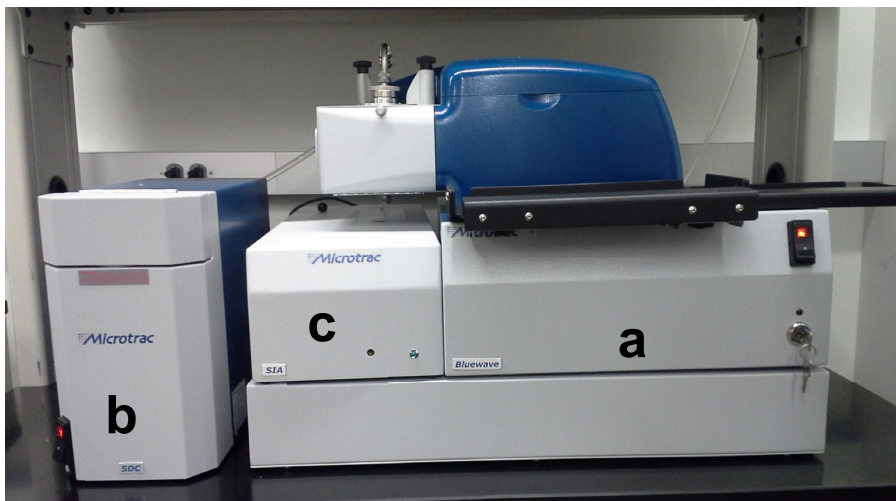

Figure 1. The Microtrac SIA (labeled c), mounted on the Bluewave tool (a).
2. The SIA is mounted on the Bluewave laser diffraction tool (see Figure 1), and the two systems share a common liquid flow system, the sample delivery controller (SDC). This allows both laser diffraction and optical measurements to be obtained simultaneously on the same sample. An in-line ultrasonicator in the SDC can be used to break up particle agglomerates, and denser/larger particles can be prevented from settling by using faster liquid circulation speeds. Dry particles can be tested by pre-suspending them in a small amount of liquid, then adding them to the SDC flow system. Suspension liquids should be chosen so that they will not dissolve or swell the particles. Surfactants may be used to help suspend particles.
3. **Tool Components.** Figure 1 shows a front view of the SIA/Bluewave combination. Key components visible in this view are: